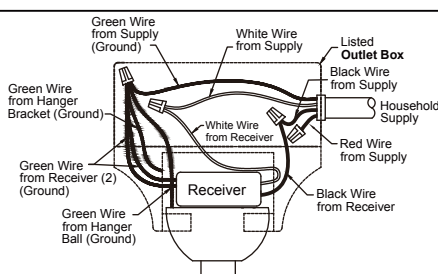

Figure 5
5. Thread downrod into the downrod support on top of the motor. Install the clevis pin by aligning the holes in the downrod support with holes in the downrod. Secure clevis pin with hairpin clip. Tighten the two set screws with nuts in the downrod support. (Figure 5)
- 4.** After connections have been made, put the white and green leads to one side and the black leads towards the other side, the connection should be turned upward and carefully push leads into the outlet box. The wires should be spread apart with the grounded conductor and the equipment-grounding conductor on one side of the outlet box and the ungrounded conductor on the other side. (Figure 5)
- ☐ 5. To set the remote code same positions as the receiver with a small screwdriver or ball point pen (neither included), slide dip switches firmly up or down. (Figure 5)